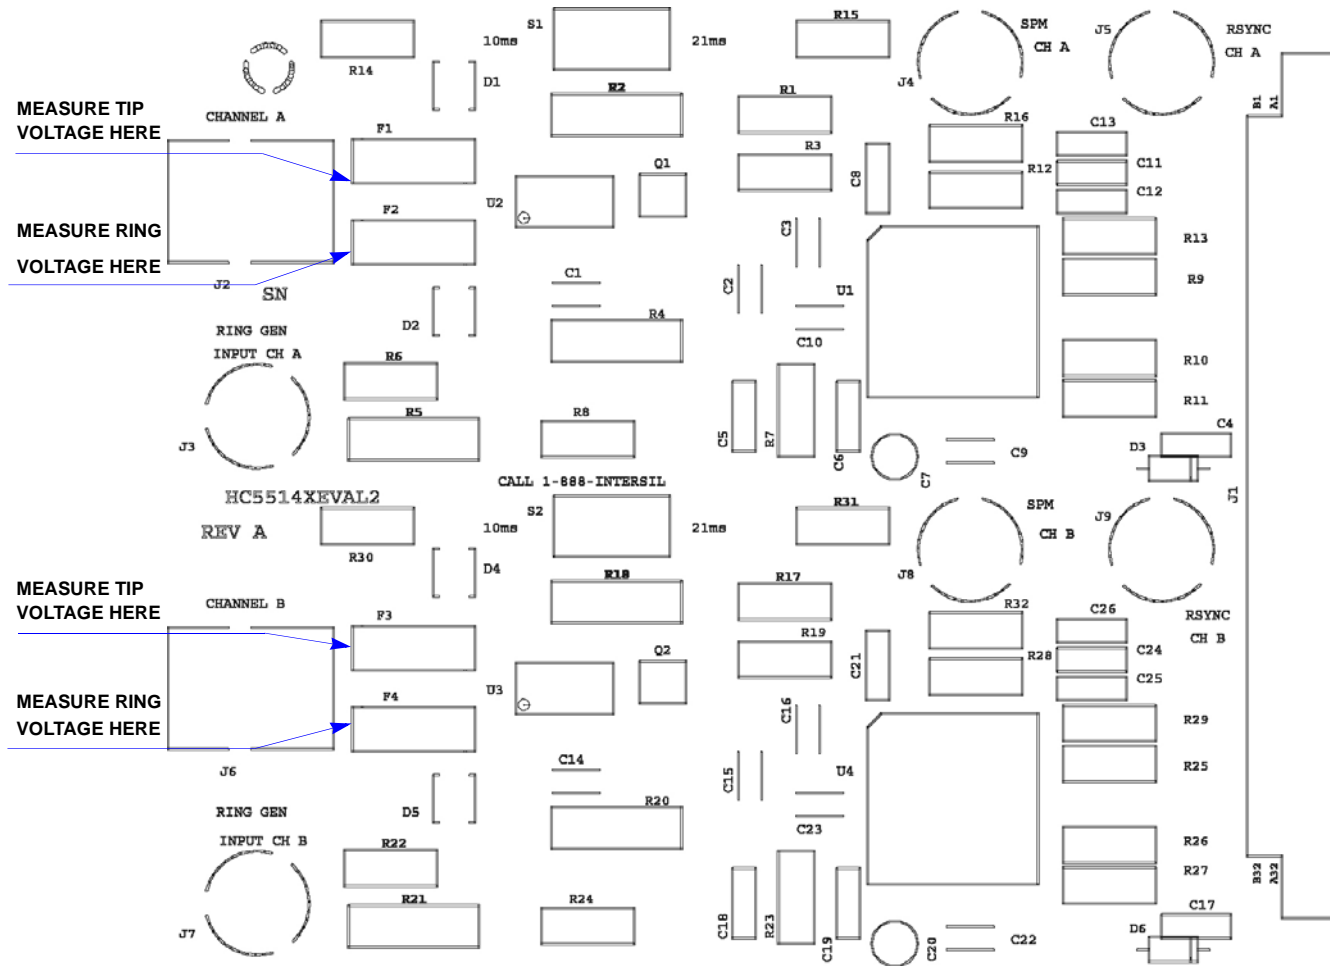

FIGURE 6. DAUGHTER BOARD LAYOUT
4. Measure the tip and ring voltages (reference Figure 6) and compare to those in Table 1 (onhook).
2. Verify tip voltage (no load, reference Figure 6) is around -2.5 volts.
Applying the ring signal at zero voltage is accomplished by providing a ring sync pulse to the RSYNC CH A/B BNC on the daughter board (Figure 6). The ring sync pulse is synchronized to go low at the zero voltage crossing of the ring signal.
Operation of the ISL5571A does not require a RSYNC pulse be present. The daughter board is configured so the RSYNC pin is grounded through one of two resistors via. S1 or S2 channel A and B respectively (Figure 6).